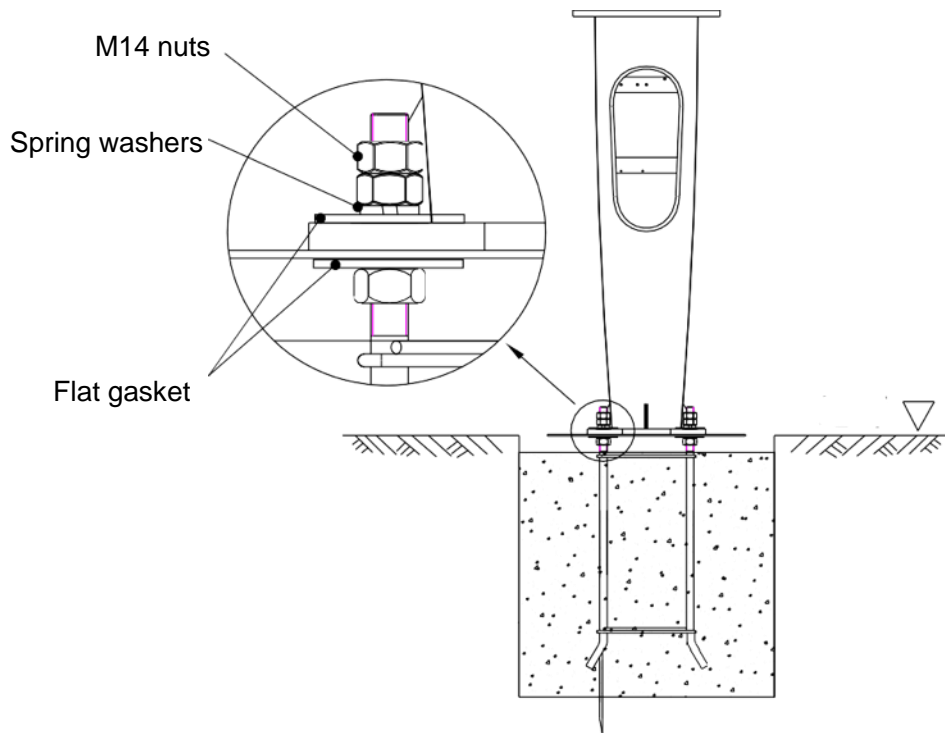

Figure 9
- ② With M14 nuts and spring washers and square flat gasket lock the under light poles, as shown in Figure 9.